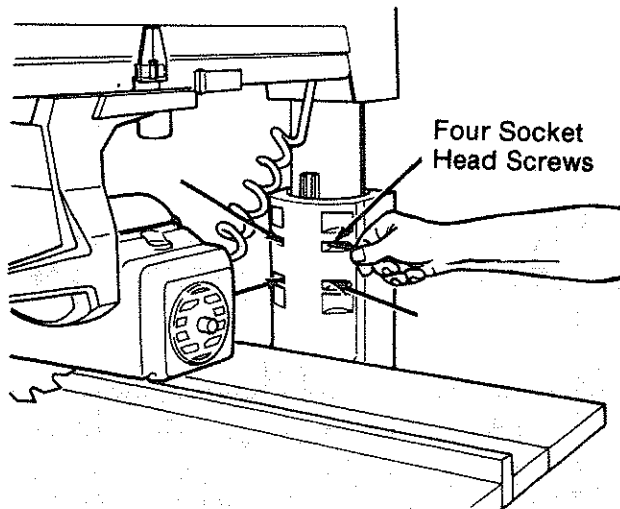

Fig. 55
13. Use a 1/8" hex "L" wrench to loosen the four screws in the front of the *column support* slightly, if you have not already done so in the Adjusting Elevation section. (Figure 55)